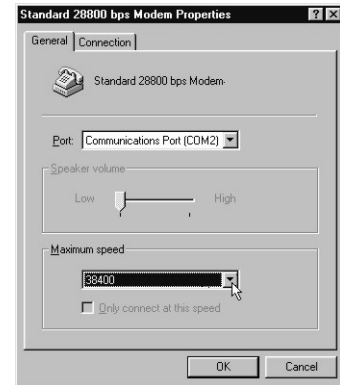

Figure 10 - Maximum Speed
9. From “Maximum Speed” area, select “38400”. (Fig. 10)